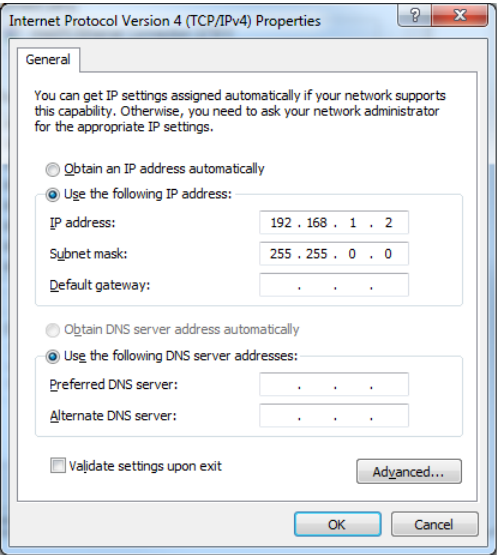

Figure 8: Internet Protocol Properties Window
6. Select **Use the following IP Address** for static IP addressing and enter the details as shown in Figure 8.